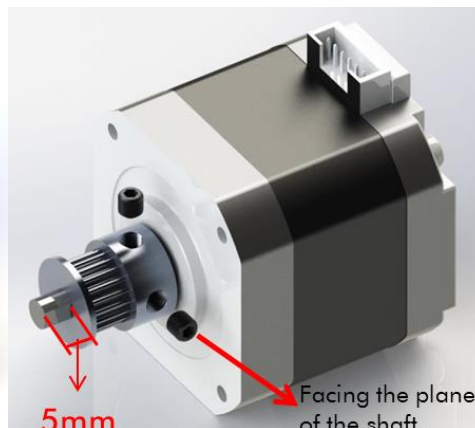

Fig. 6
Step 6. Fig.6 shows the assembly of 3 stepper motors. After assembly, using C06 to fix those motors to each corners of the bottom triangle as demonstrated in Fig. 7. Make sure the sockets of the motors face up.